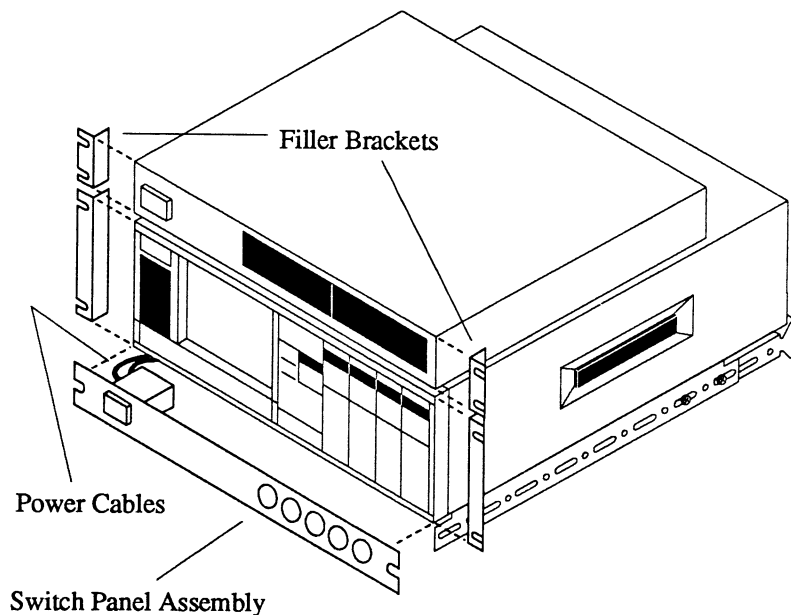

Figure 2 - Filler Brackets and Front Mounting Panels
17. Attach the Pro Disk's Filler Brackets (P/N 011-9276) to the Front Mounting Panel with the panel screws provided (Figure 2).